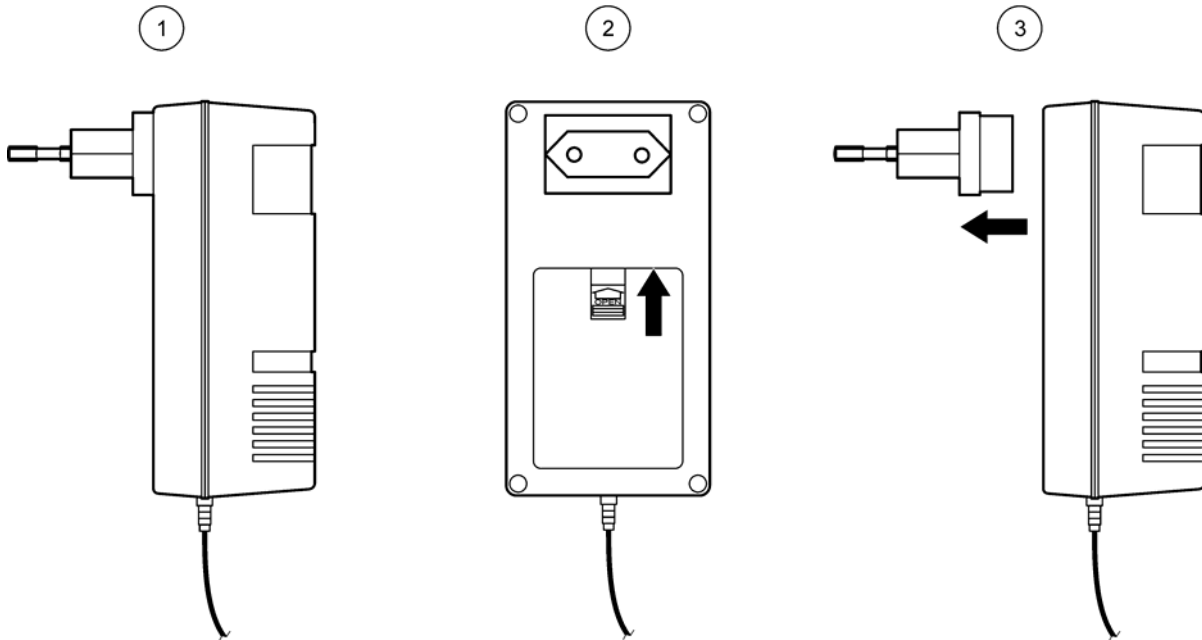

Figure 3 Replacing the adapter
1. Push the slide switch (item 2, Figure 3) on the back of the charger up and remove the adapter (item 3, Figure 3).